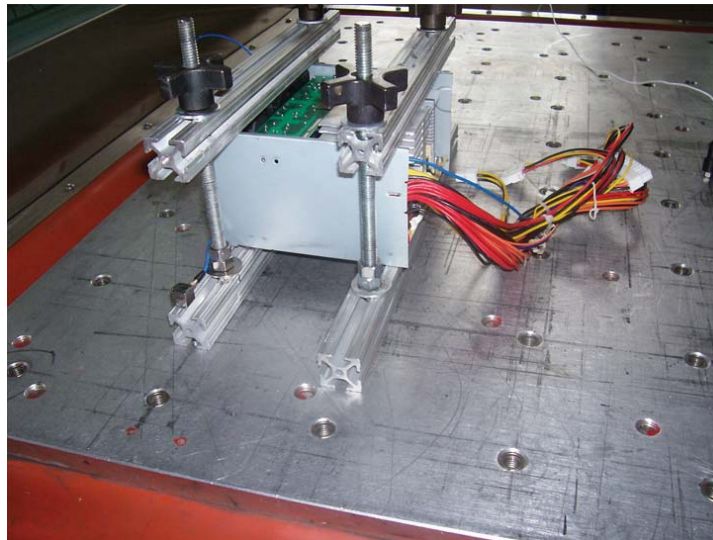

FIGURE 1: HALT Fixturing Example
The vibration fixturing used in HALT is very different from that used when testing with typical Electro-Dynamic (ED) or hydraulic shakers. In HALT, the fixture is not designed to mimic the real-life mounting of the product. Instead, it is designed to maximize the transmission of energy into the product to speed the precipitation of failures. This results in simple, inexpensive fixturing with the goal of simply clamping the product to the vibration table as tightly as possible. Figure 1 shows a typical product fixtured in a HALT chamber. To maximize air flow through the product as well as to improve the transmission of the low frequency energy, the product is set up on aluminum u-channel rather than being placed directly on the table top. The u-channel across the top of the product and the all-thread rod and nuts clamp the product to the table.